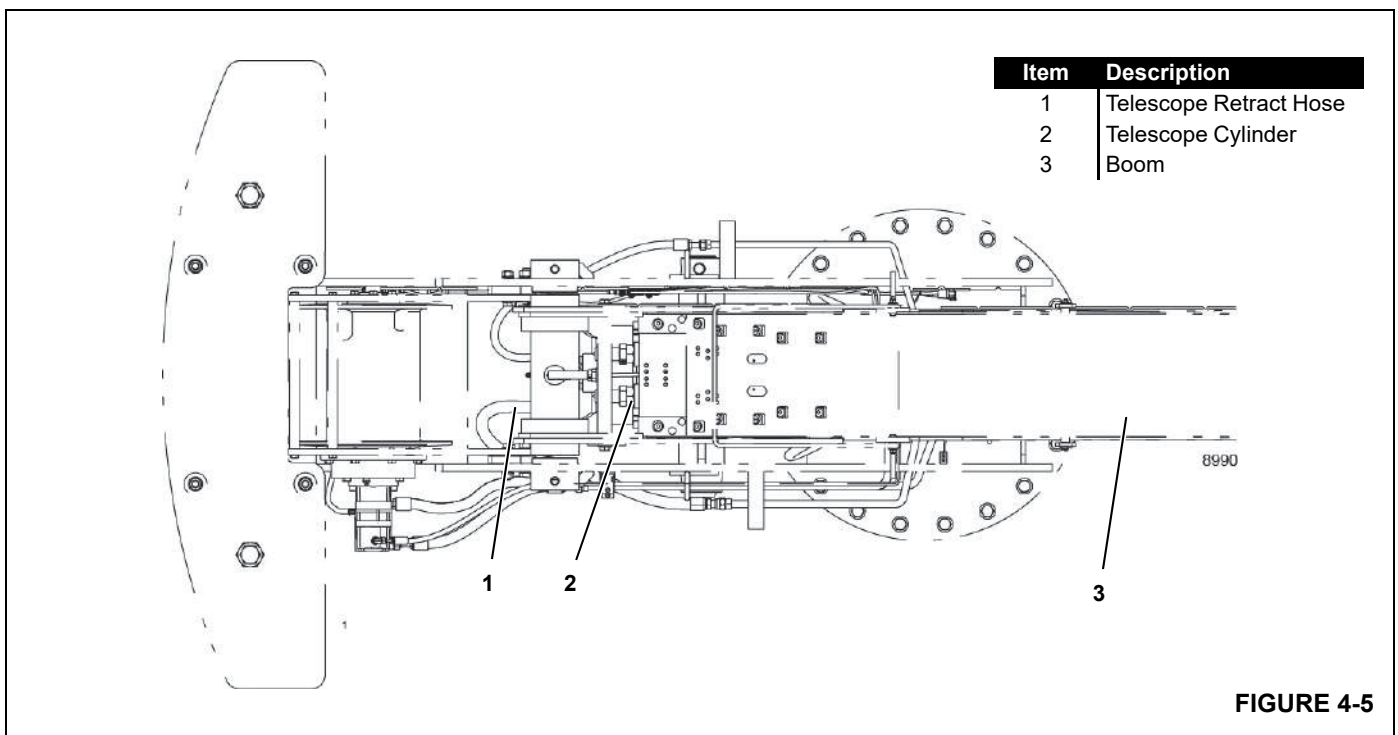

FIGURE 4-5
4. Disconnect the telescope retract hose (1, Figure 4-5) from the fitting in the end of the telescope cylinder. A little oil will drain from the hose and fitting.